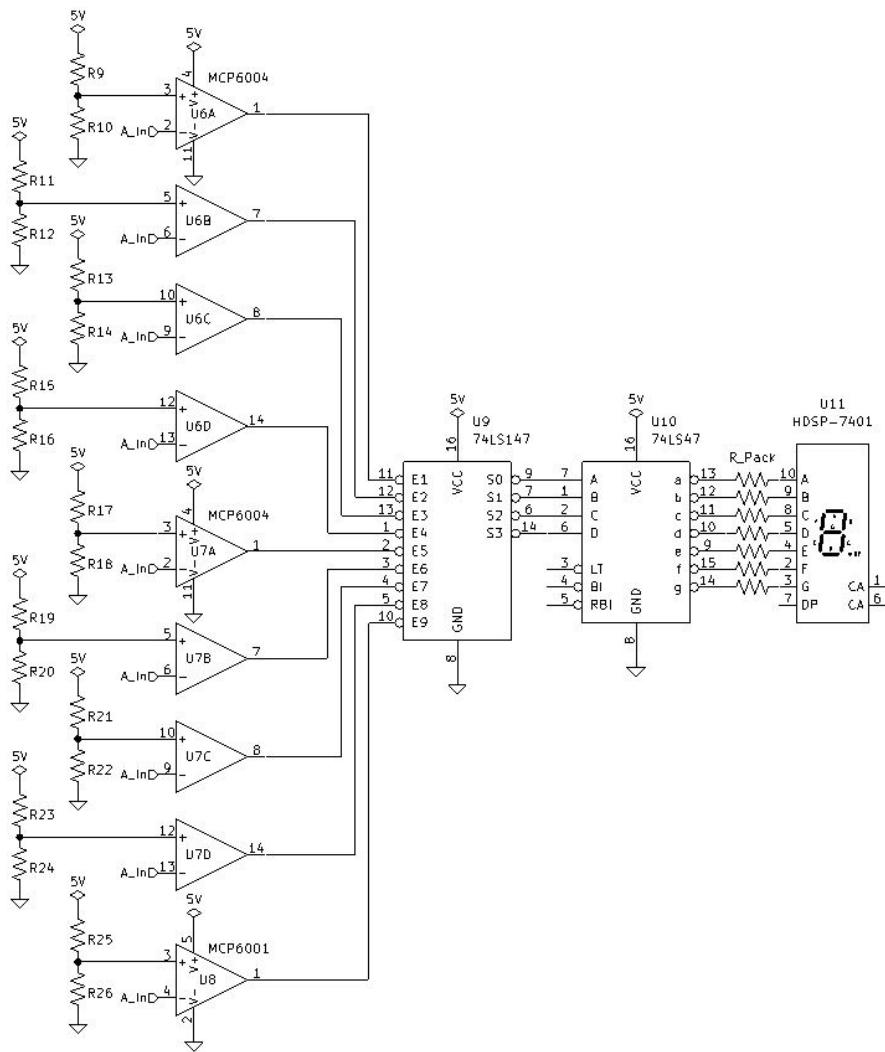

Figure 8.8: Design Test Circuit 2
1. Identify each IC used in Figure 8.8 Design Test Circuit 2 and include the following.